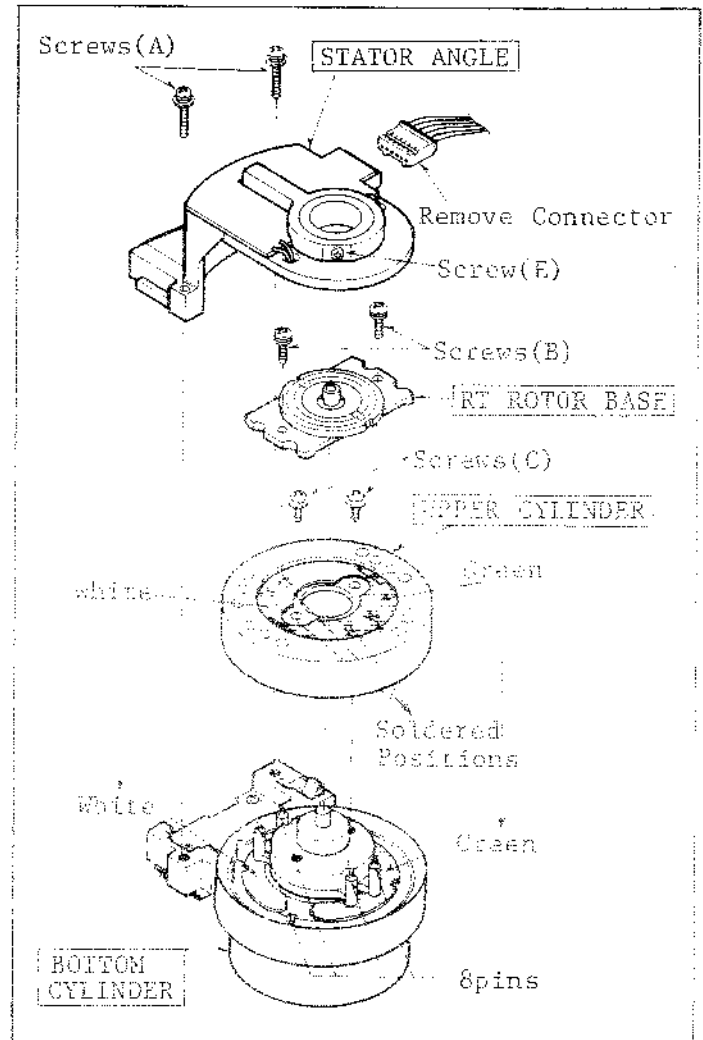

Fig. 13
First, unscrew 2 screws (A) and then remove the Stator Angle as shown in Fig. 13.
NOTE: The Upper Cylinder should correctly match the white and green portions of the P.C. Board of the Bottom Cylinder as shown in Fig. 13.